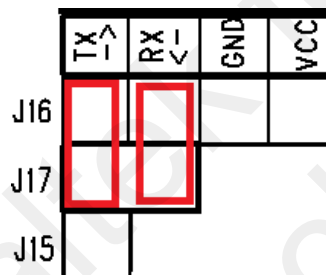

Figure 1-5 Connection of HCI UART Jumper
- a) Connection of Jumper for HCI UART Test is shown in figure 1-5: